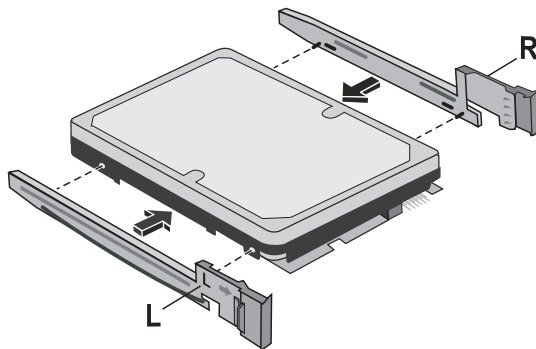

Figure 2-7: Attaching rails to cold swap hard drive
5. Attach the rails to the sides of the drive. Refer to Figure 2-7.